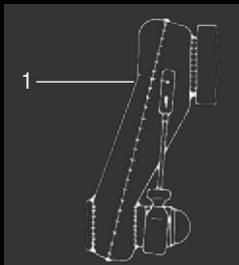

Fig 1
5. Remove rectangular plastic cap from the underside of the swing-arm - see Fig 1, Item 1.